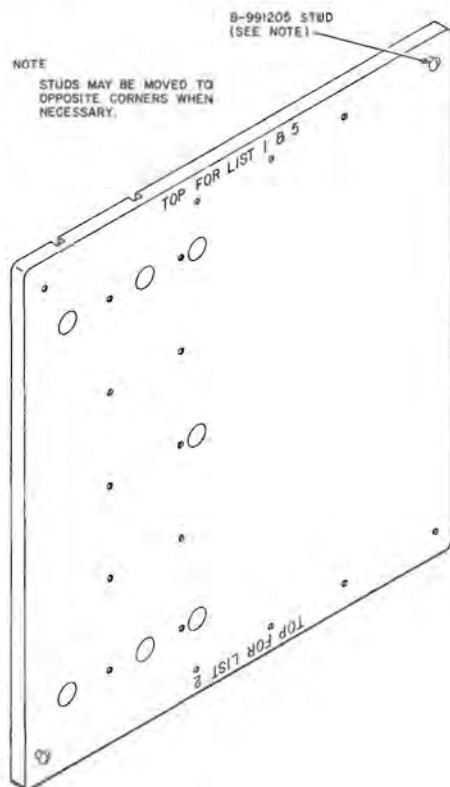

Fig. 5—B-991082 Backboard Assembly
- (a) Use B-991631 measure strip and locate B-991082 backboard assembly (Fig. 5) on wall in the exact position it will be installed. Backboard shall be 46-53/64 inches from floor.